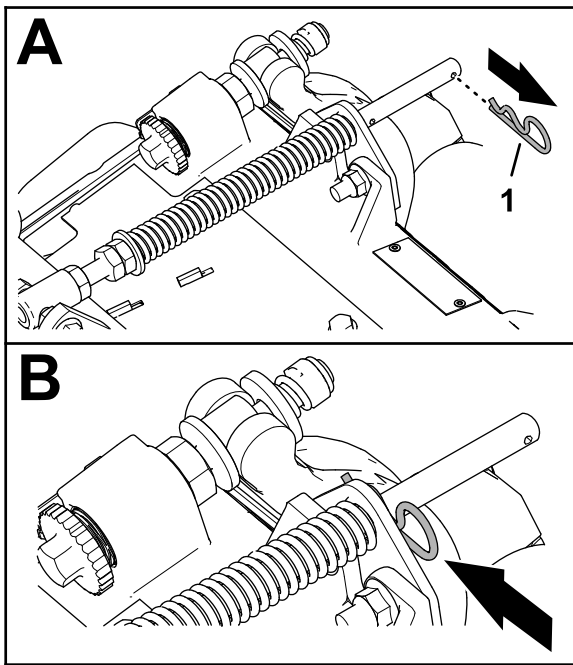

**Figure 12**
1. If the hairpin is installed in the rear hole of the compensation-spring rod—remove the hairpin and insert it in the hole next to the bracket (Figure 12).